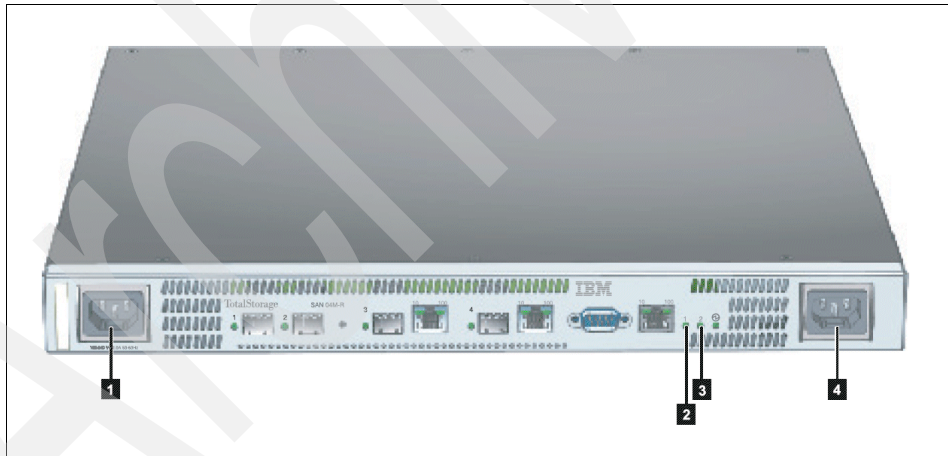

Figure 17-1 Power connections and LEDs
3. Both green power LEDs (numbered 2 and 3 in Figure 17-1) light.